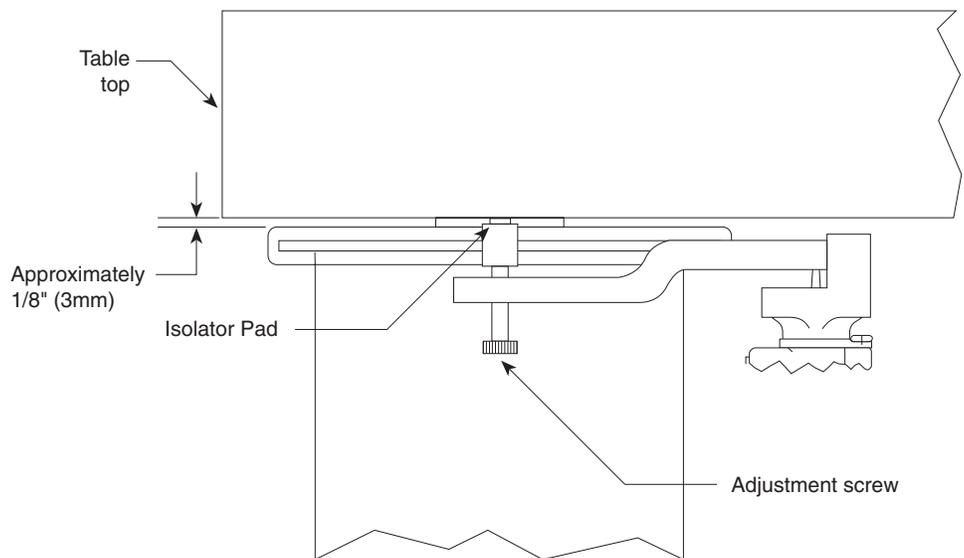

Figure 2.5 — Leveling Arm Orientation
- A. Position the pads on each of the three leveling valve arms so that they contact the underside surface of the table top (figure 2.5).